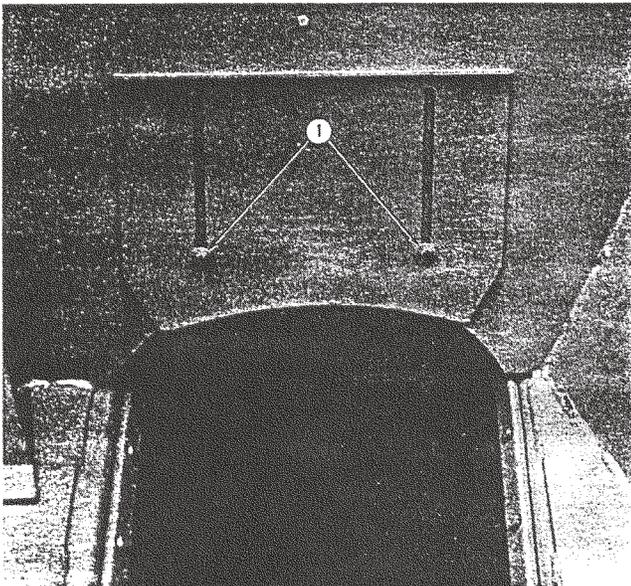

Figure 6
9. Rear conveyor gates may be adjusted so material is supplied to the front hopper at a rate approximately equal to the rate at which material is being spread. (Figure 6).
Rear Hopper Flow Gate Adjustment (Figure 6)